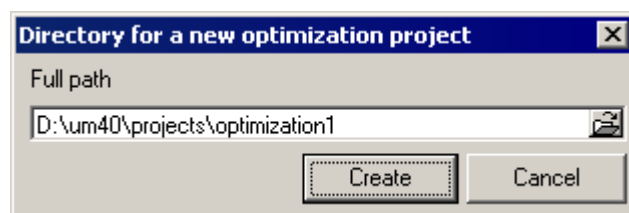

Figure 5.3. Path to the new optimization project
3. Input the full path to the new project including the name of the project, see Fig. 5.3.